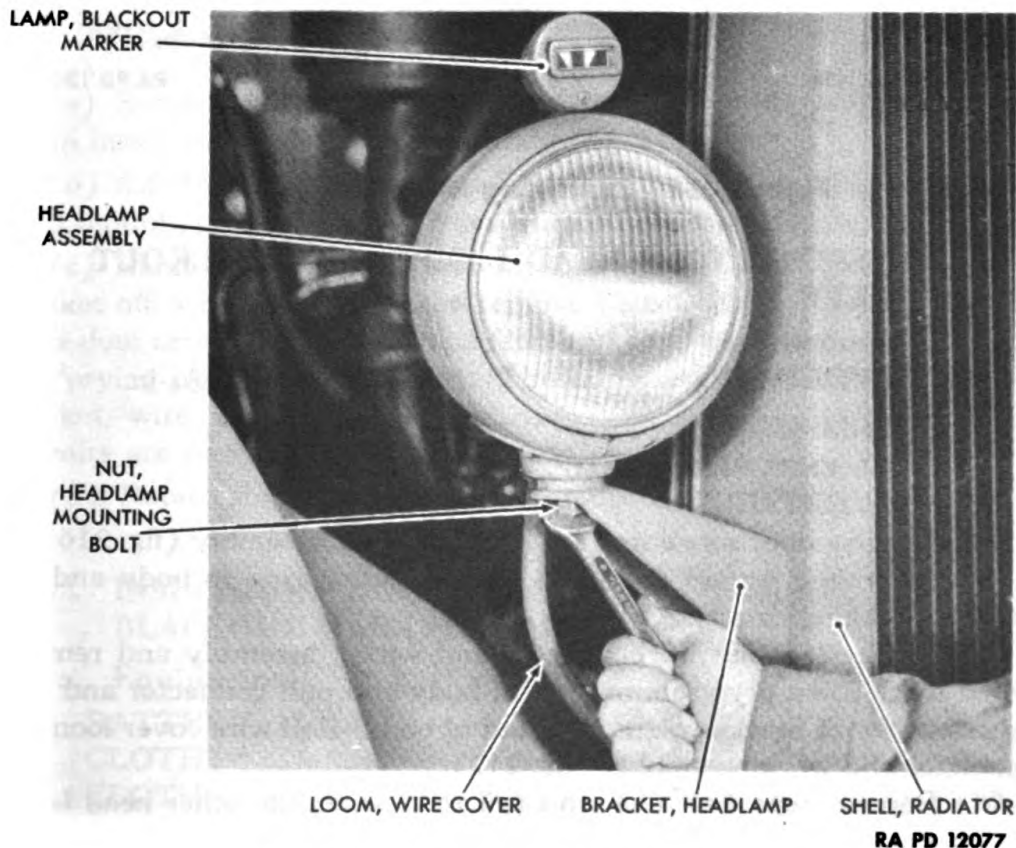

Figure 215—Removing Head Lamp
- (1) Remove head lamp mounting bolt nut (fig. 215).
- (2) Pull the 3 head lamp wires out of connectors.
- (3) Remove the screw that holds the ground wire to the hood rail.
- (1) Park the vehicle on a level floor or on level ground so that it faces a wall at a distance of 25 feet.
- (2) Measure vertical distance from center of head lamp lens to floor. Draw a horizontal chalk line on the wall in front of vehicle at a height one foot less than the head lamp-to-floor measurement.
- (3) Cover one head lamp and loosen the head lamp mounting bolt nut on the other head lamp (fig. 215).
- (4) Turn on the bright lights. Tip the loosened head lamp up or down until the bright or upper beam centers on the chalk line directly in front of truck. Both vertical and horizontal adjustments are necessary. Tighten head lamp mounting bolt nut securely (fig. 215).
- (5) To get the correct horizontal adjustment, line up the radiator cap with the center of the chalk line. Measure the horizontal distance between the radiator cap and each headlight; then measure the horizontal distance from the center of each headlight pattern on the wall to the center of the chalk line. Adjust the headlights until these distances are equal.
- (6) Adjust other head lamp by repeating steps (3) and (4) above with adjusted head lamp covered.